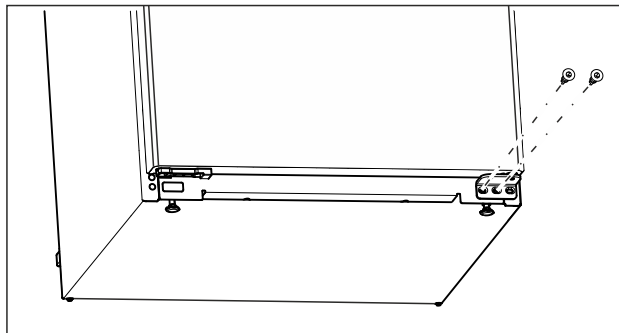

Fig. 12
- Unscrew the middle screw on the lower swap bearing block with a Torx 20 screwdriver. (see Fig. 12)
- Unscrew the inner screw on the lower swap bearing block with a Torx 20 screwdriver. (see Fig. 12)